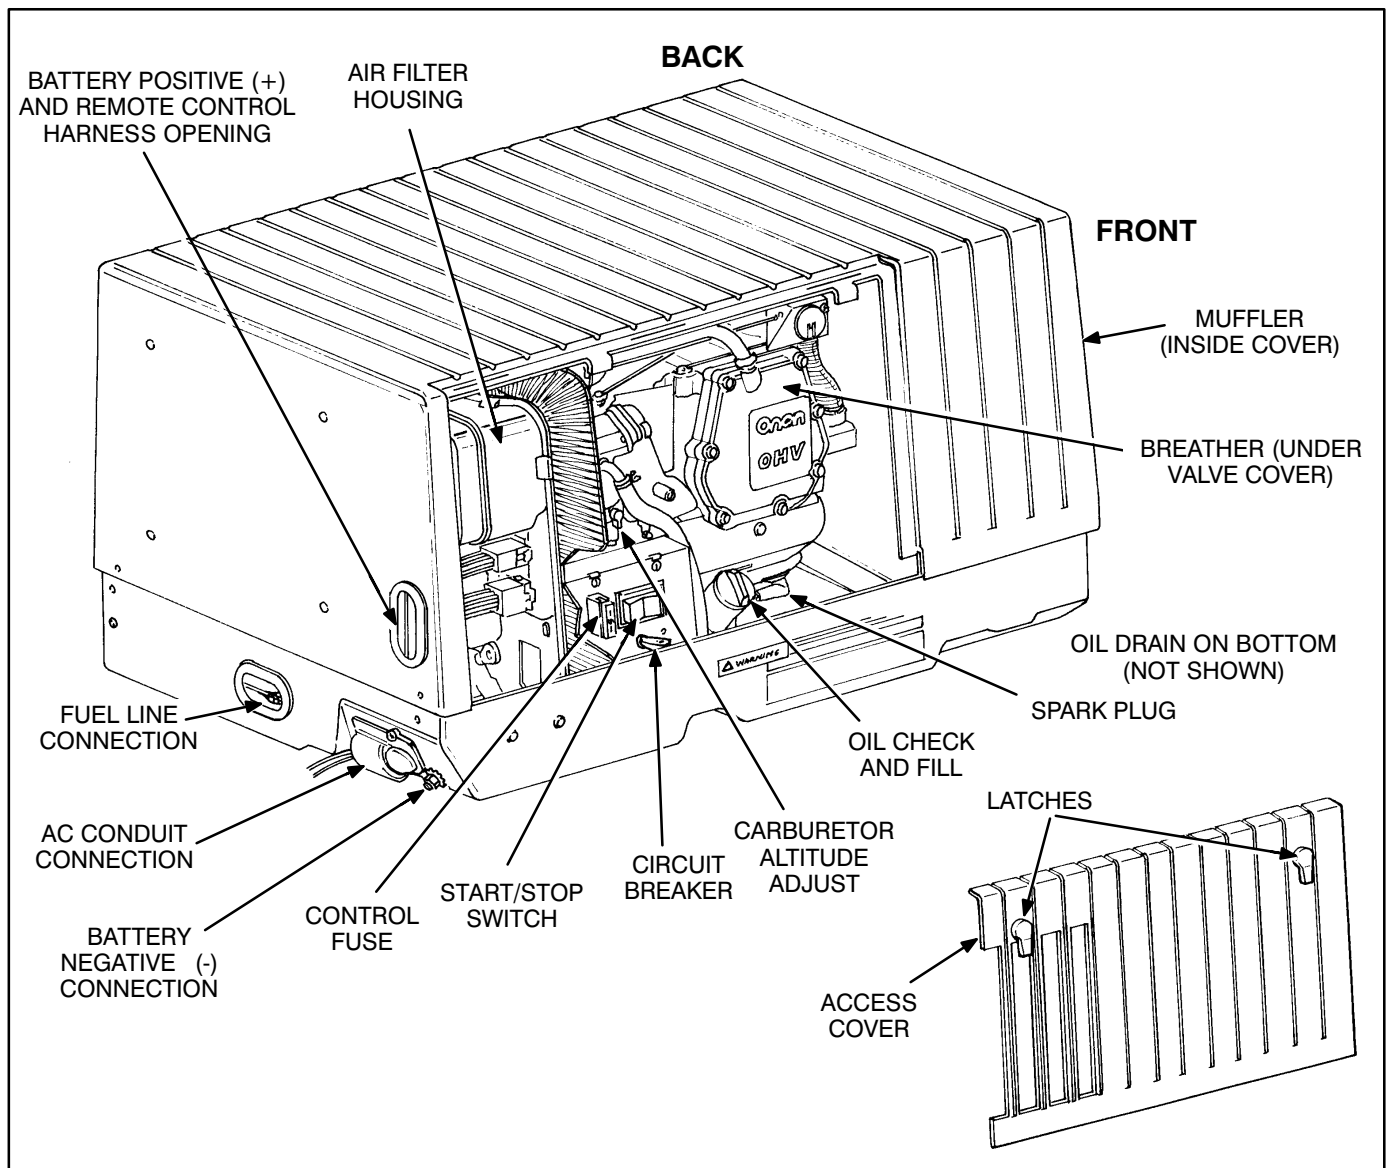

FIGURE 1-1. MICROLITE (KY) GENERATOR SET COMPONENT LOCATIONS
The standard control panel and routine maintenance items are located behind the access cover (Figure 1-1).
2. Remove the mounting bolts that secure the shipping bracket to the wooden skid. Raise the set with a lift truck or tilt the genset backwards to access the mounting bolts. Do not tip the genset forward or oil may spill into the breather. See Figure 1-1 on Page 1-2.